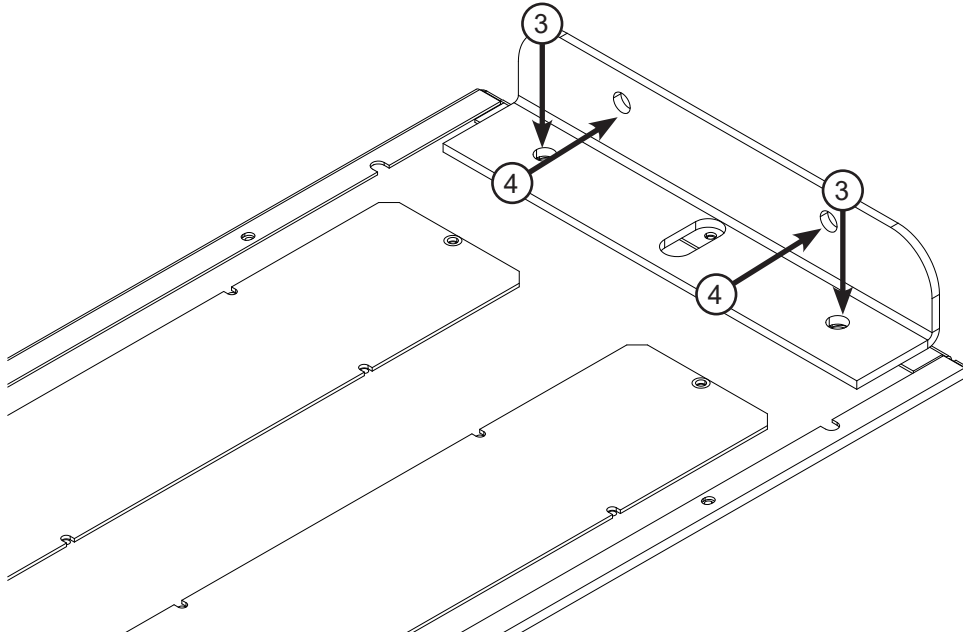

FIGURE 7.4: TOP SEISMIC BRACKET INSTALLATION
3. Secure the Top Seismic Bracket to the top rear of the UPS using two (2) fastener groups. Skip this step if the bracket is pre-installed. (Figure 7.4)
4. Secure the Top Seismic Bracket to the wall anchors prepared in Step 1. (Figure 7.4)